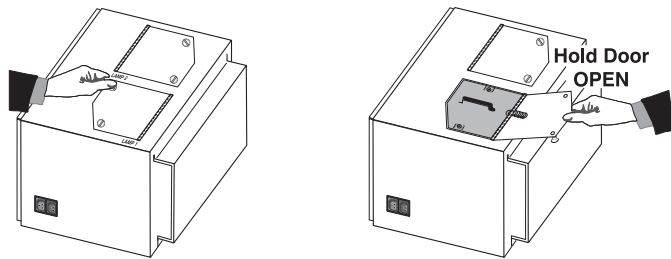

Figure 4.2.
- 2) **OPEN LAMP COMPARTMENT:** Loosen the two screws on the lamp door you want to open. Swing the door open. (Figure 4.2.) *NOTE: Each lamp door is spring-loaded and needs to be held open during lamp replacement.*